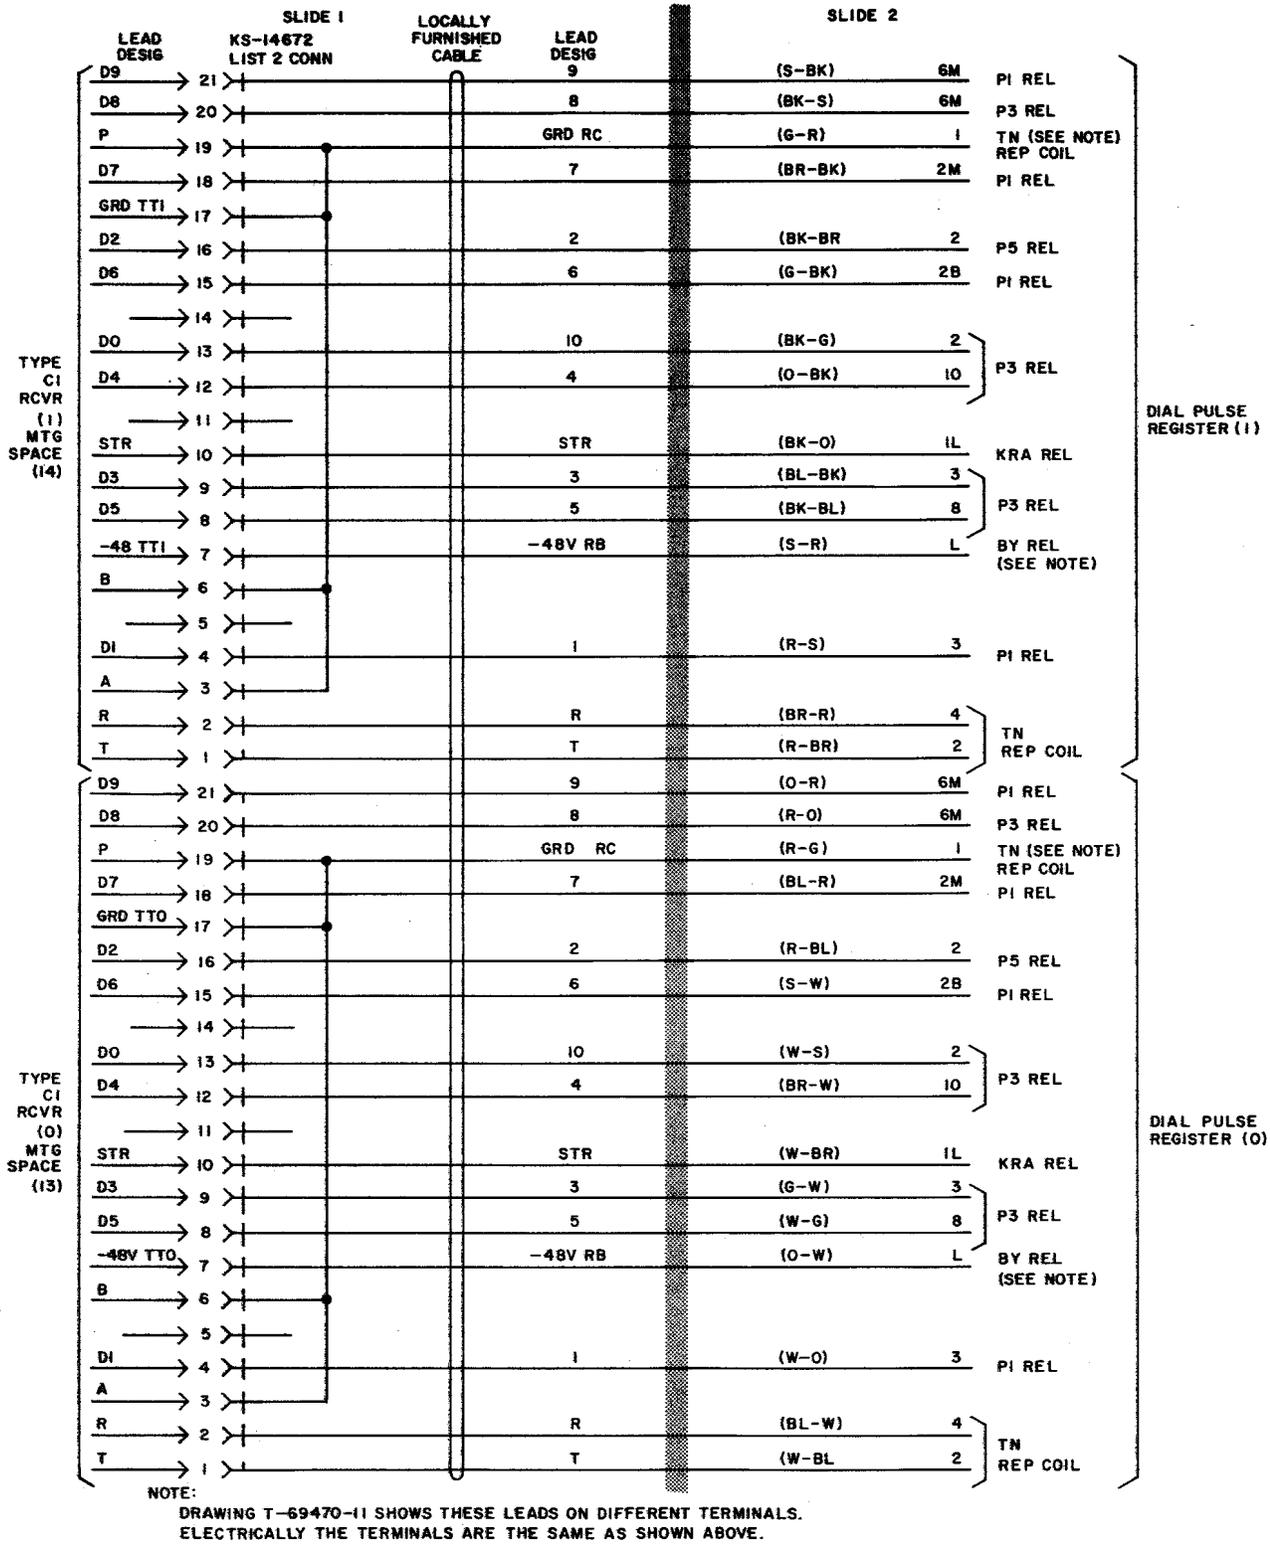

Fig. 22—Connections for Adding Type C1 Receivers for TOUCH-TONE Calling to List 3 (MD) Cabinet Assembly
8.03 Install two type C1 receivers, two KS-14672, List 2 connectors and 16-pair cable (furnished locally) as explained in Section 518-710-200. Connect the free end of the 16-pair cable to dial pulse registers (0) and (1), slide 2, as shown in Fig. 22.